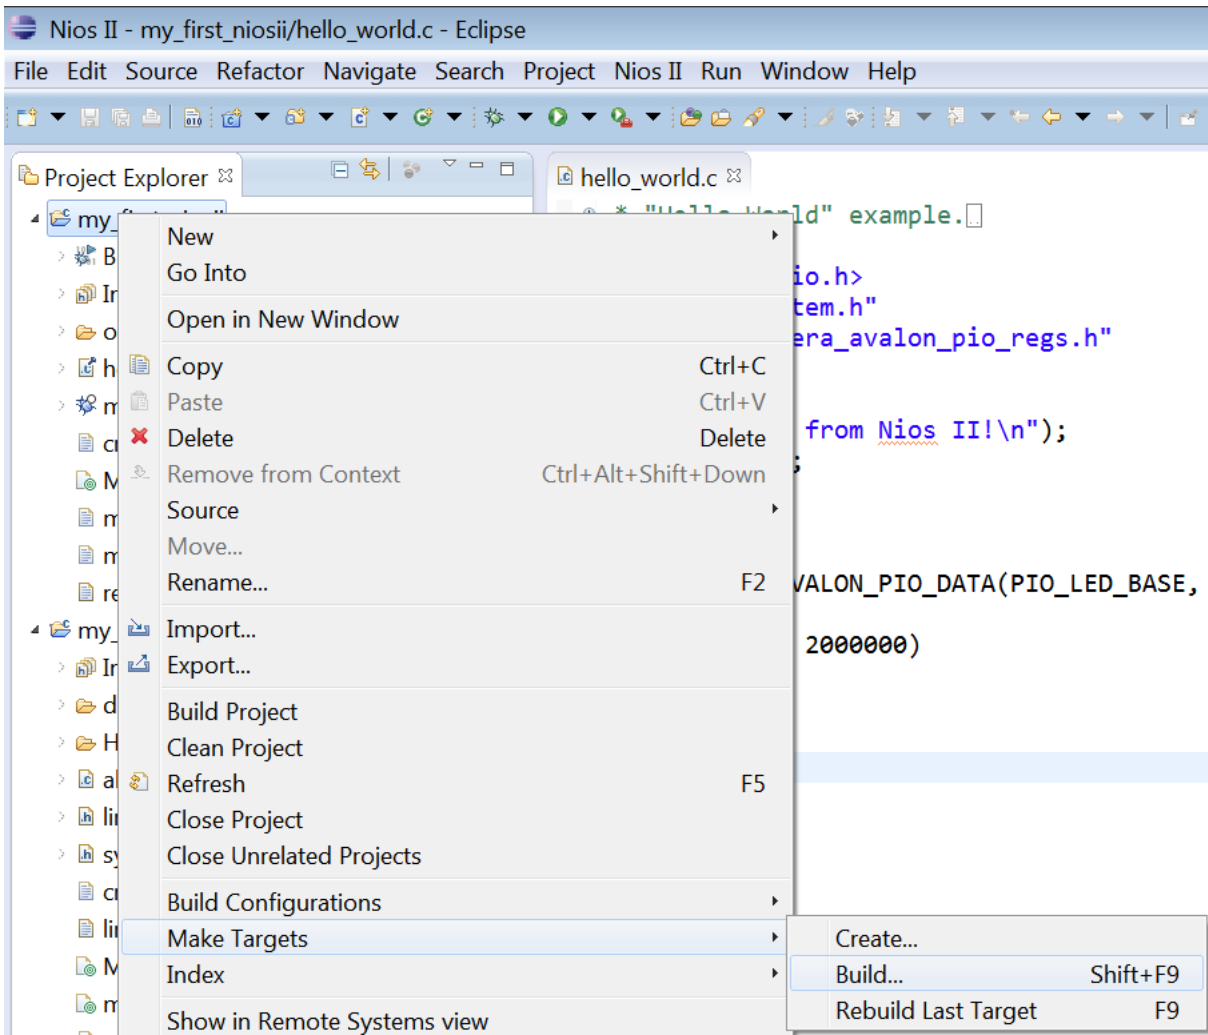

Figure 3-11 Generate the HEX file
6. Right-click on **my_first_niosii** in Nios II SBT tool and click **Make Targets -> Build...**, as shown in **Figure 3-11**. Select **mem_init_generate** and click **Build** to generate the HEX file.